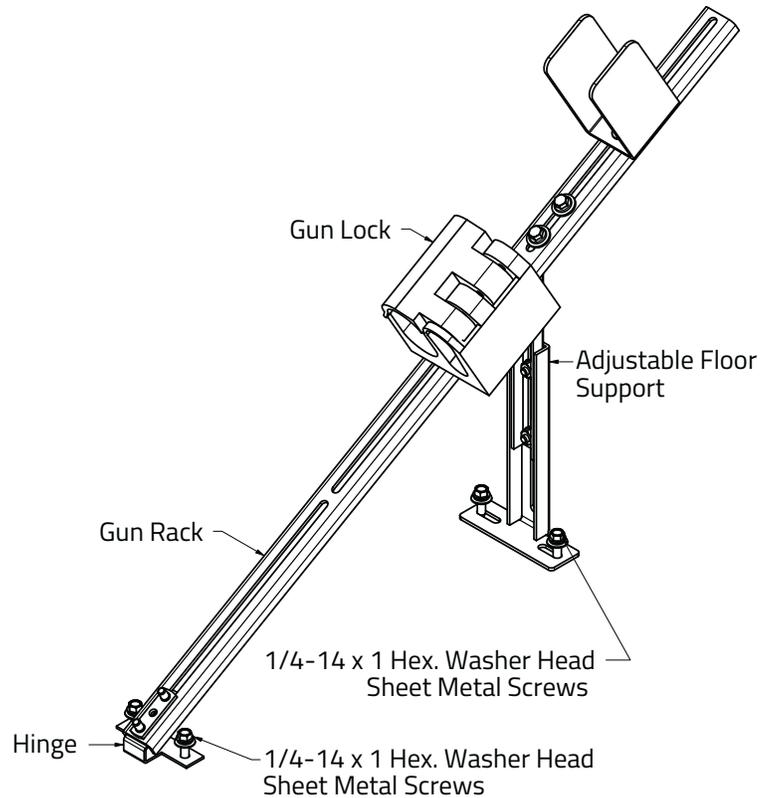

Figure 2
2. Once the desired location is determined, use (2) 1/4 -14 x 1 Hex Washer Head Sheet Metal Screws to secure the Hinge to the floor of the vehicle. (See Figure 2)
4. Attach Adjustable Floor Support to the floor using (2) 1/4 -14 x 1 Hex Washer Head Sheet Metal Screws. (See Figure 2)